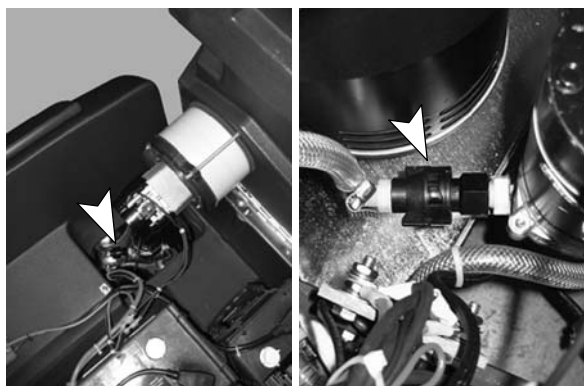

FIG. 37
1. To access the solution injector assembly, open the battery compartment. The injector assembly is connected to the solution pump (Figure 37).